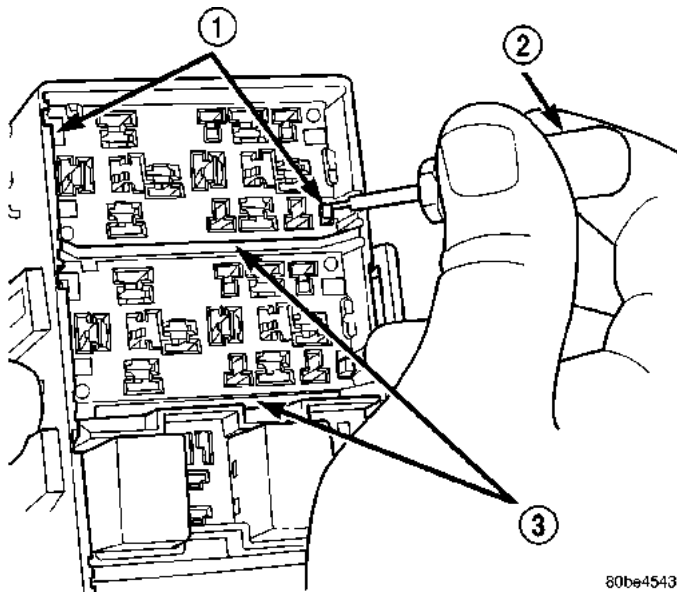

Fig. 13 PDC Relay Cassette Latches - Typical
(2) From the top of the PDC housing, use a small screwdriver or a terminal pick tool (Special Tool Kit 6680) to release the two latches that secure the relay cassette in the PDC (Fig. 13).